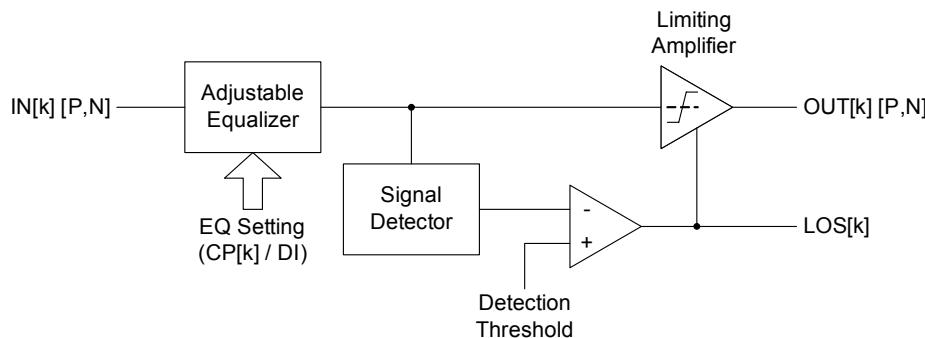

FIGURE 22. FUNCTIONAL DIAGRAM OF A SINGLE CHANNEL WITHIN THE QLx4600-S30
The QLx4600-S30 is an advanced quad lane-extender for high-speed interconnects. A functional diagram of one of the four channels in the QLx4600-S30 is shown in Figure 22. In addition to a robust equalization filter to compensate for channel loss and restore signal fidelity, the QLx4600-S30 contains unique integrated features to preserve special signaling protocols typically broken by other equalizers. The signal detect function is used to mute the channel output when the equalized signal falls below the level determined by the Detection Threshold (DT) pin voltage. This function is intended to preserve periods of line silence ("quiescent state" in InfiniBand contexts).
As illustrated in Figure 22, the core of each high-speed signal path in the QLx4600-S30 is a sophisticated equalizer followed by a limiting amplifier. The equalizer compensates for skin loss, dielectric loss, and impedance discontinuities in the transmission channel. Each equalizer is followed by a limiting amplification stage that provides a clean output signal with full amplitude swing and fast rise-fall times for reliable signal decoding in a subsequent receiver.